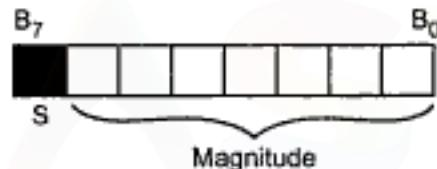

Fig. 1.16 2's Complement 8-bit number
5) Overflow Flag : In 2's complement arithmetic, most significant bit is used to represent sign and remaining bits are used to represent magnitude of a number (see Fig. 1.16). This flag is set if the result of a signed operation is too large to fit in the number of bits available (7-bits for 8-bit number) to represent it.